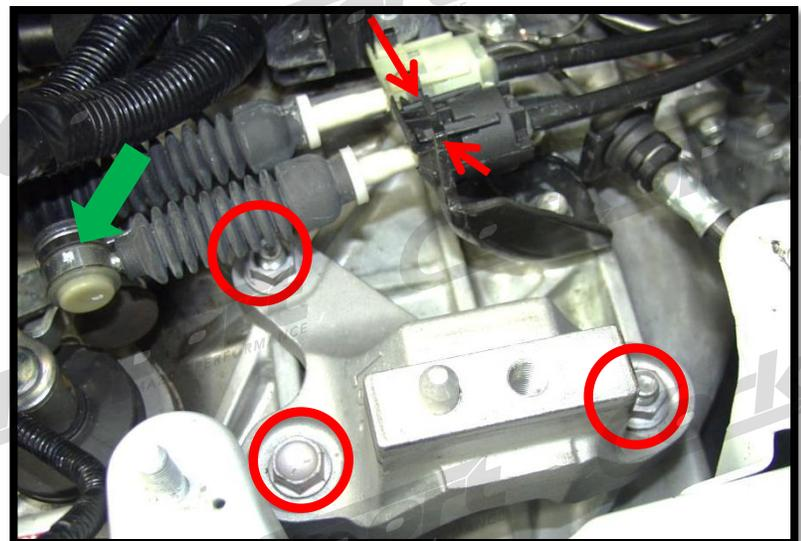

Figure 4d
- e) **Remove the black shifter cable from the transmission.** Pry the cable end free with a flat blade screw driver and push the two locking tabs inward. Pull the cable upward (Figure 4d).
- f) **Remove the transmission mount bracket.** Remove the three (3) 17mm nuts and bolt (Figure 4d).
e) Remove the black shifter cable from the transmission. Pry the cable end free (green arrow in Figure 4d) with a flat blade screw driver. Push the two locking tabs inward and pull the cable upward (red arrows in Figure 4d).
f) Remove the transmission mount bracket. Remove the three (3) 17mm nuts and bolt with a socket wrench and extension (red circles in Figure 4d).